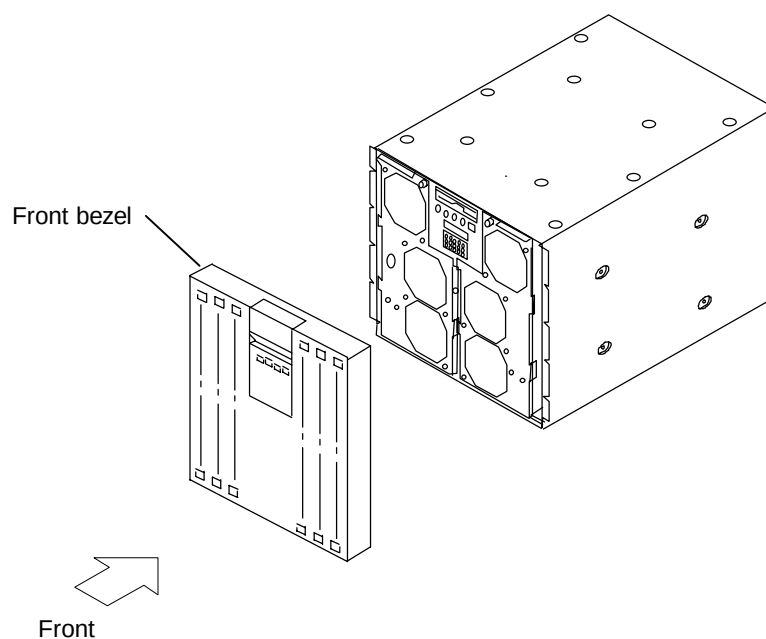

Figure 3.1.1 Attaching/Removing the Front Bezel
- (1) Removing the front bezel. (See Figure 3.1.1.)
① Hold the grooves at both sides of the front bezel and pull it toward you.
- (2) Attaching the front bezel. (See Figure 3.1.1.)
① Fit the guide plate of the main body with the slots of the front bezel (four places), press the front bezel against them.